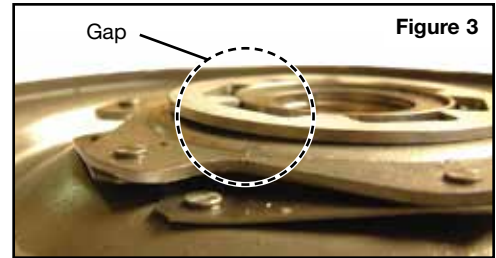

Figure 3
- c. Prior to welding, put all components in place and insert the shim stock into spring cavities. Press on leaf spring plate, ensuring no gap is present between the O.D. of the retainer repair plate and the leaf spring plate (Figure 3).